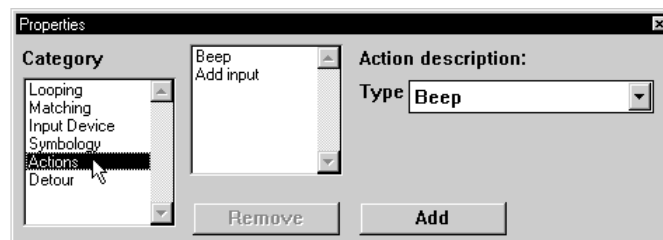

Figure 4-46 Properties Window - Action Category
20. With all four Detour Handlers still selected, click **Action** in the **Properties** window's **Category** list (Figure 4-46).